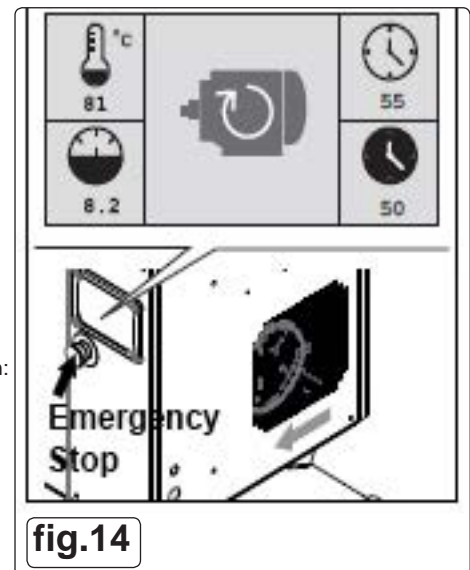

fig.14
These 10 Hp compressors are equipped with a phase sequence relay (KR), see fig.5, that during every start up, checks the rotation direction and, in case of wrong rotation direction, stops the compressor (fig.14 error message on the control panel). Disconnect the compressor from the mains power, reverse two phases of the power cable on the terminals for connection of the cable line and restart the compressor. This procedure should be carried out by a qualified electrician.
The compressor is fitted with a phase sequence relay (KR). This points out the incorrect connection order of the power supply cables (relative to the three phases) that causes the incorrect rotation direction of the screw unit. In this event the compressor stops and the display shows the graphic shown in fig.14.
Press the emergency stop button on control panel (see fig.14) to stop the compressor immediately.